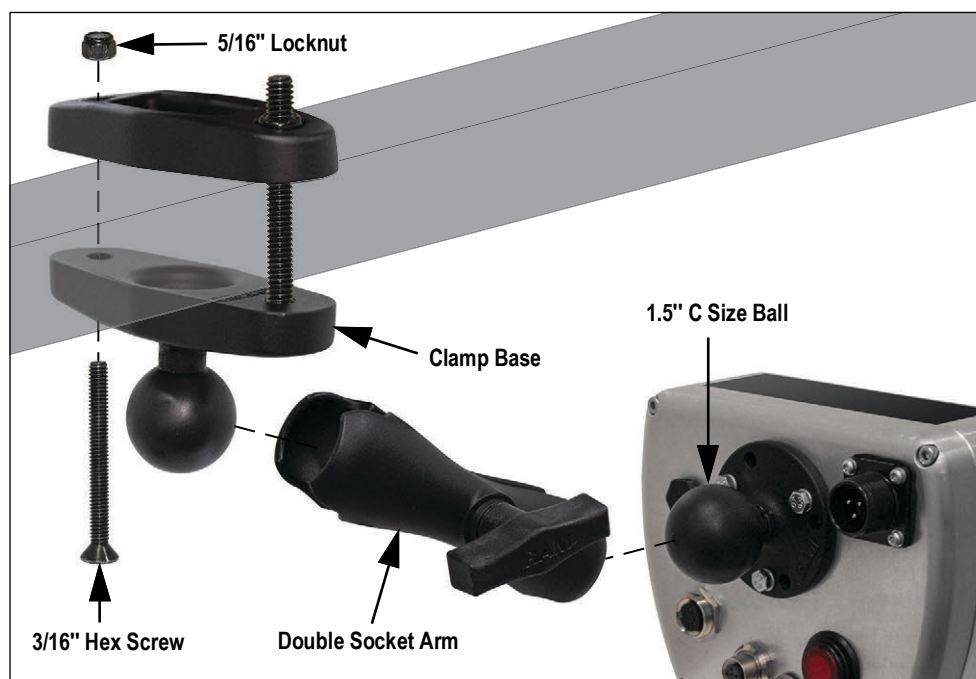

Figure 2-3. RAM Mounting Option
1. Secure the RAM mount clamp base with 1.5" C size ball to the forklift frame with two screws and locknuts. Tools needed for this step are a 1/2" wrench and a 3/16" hex key (Figure 2-3).